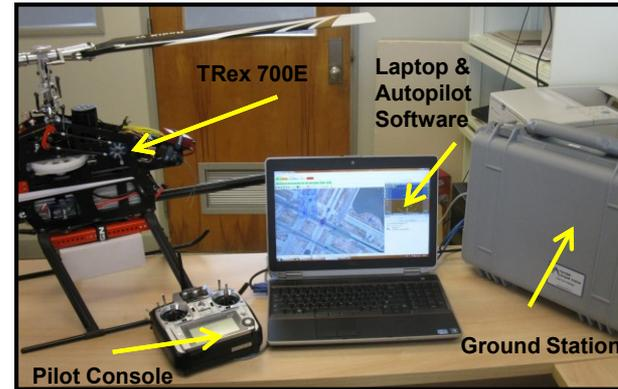

Figure 1: Complete System Set-up
- This set up (**Figure 1 & 2**) is currently being used for the development of a high fidelity aerodynamic model as well as tuning gains for the control laws.